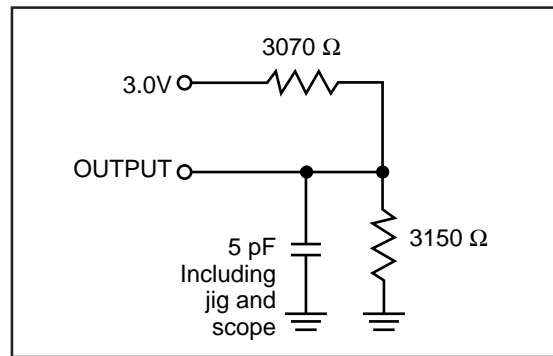

Figure 2
2. Tested with the load in Figure 2. Transition is measured ± 500 mV from steady-state voltage. Not 100% tested.
- Tested with the load in Figure 2. Transition is measured ± 500 mV from steady-state voltage. Not 100% tested.